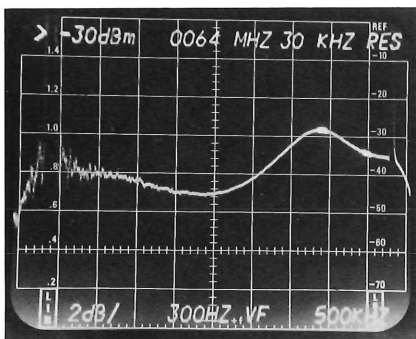

Figure 6-10. 2 dB/DIV swept modulator response using 1405. Markers are at 3.58 MHz and 4.18 MHz.
9. On the analyzer, select 2 dB/DIV. Adjust the IF gain as required to bring the displayed waveforms on screen. On the 1405, turn off the 1.25 and 4.75 MHz markers leaving on the 3.58 MHz marker. Turn on the 0.75 and the 4.18 MHz markers. Adjust INTENSITY and WIDTH as necessary. Check for overall flatness. Verify sideband amplitudes at 3.58 MHz and channel edge amplitudes are within specified limits (figure 6-10).